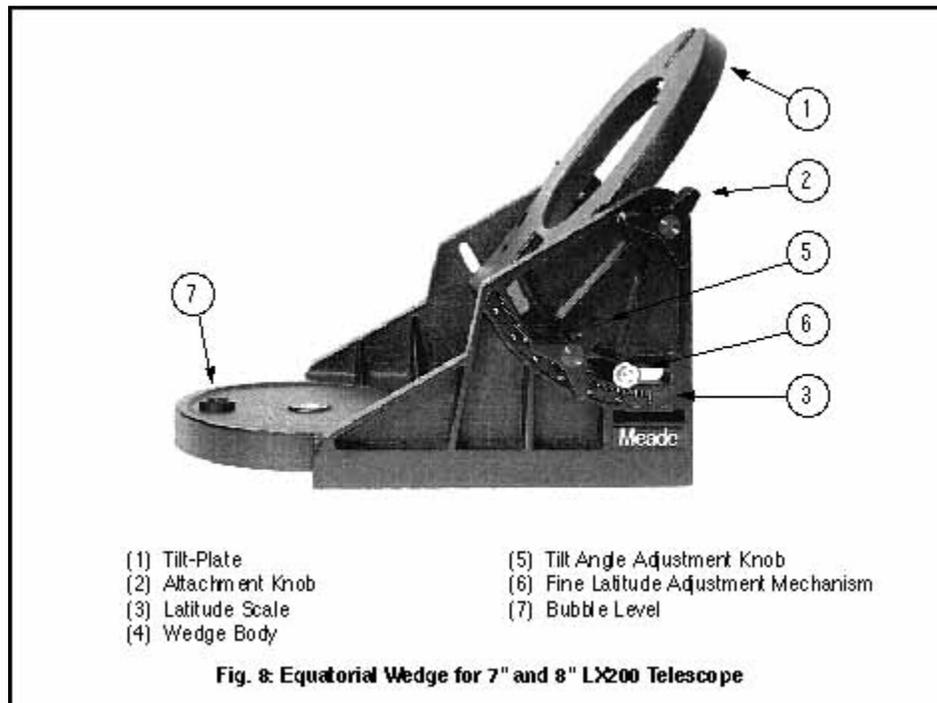

Figure 8: Equatorial Wedge for 7" and 8" LX200 Telescope
The Equatorial Wedge permits use of the 8" LX200 telescope in an astronomical, or "equatorial," mode. The wedge fits onto the field tripod, described below, and accepts the base of the 7" or 8" LX200 fork mount. See Fig. 8.
1. The wedge consists of two basic parts: the wedge body and the tilt-plate, as shown in Fig. 8. Attach the tilt-plate to the wedge body by threading in the four knobs provided. Two knobs, with washers, should be used on each side of the wedge body so that a total of 4 knobs attach the tilt plate to the wedge body.
1. Slightly loosen the knobs (5, Fig. 8), on each side of the wedge.
Check that the knobs or bolts at the side of the wedge, (5, Fig. 8 or 5, Fig. 10), are firmly tightened before placing the telescope onto the wedge.